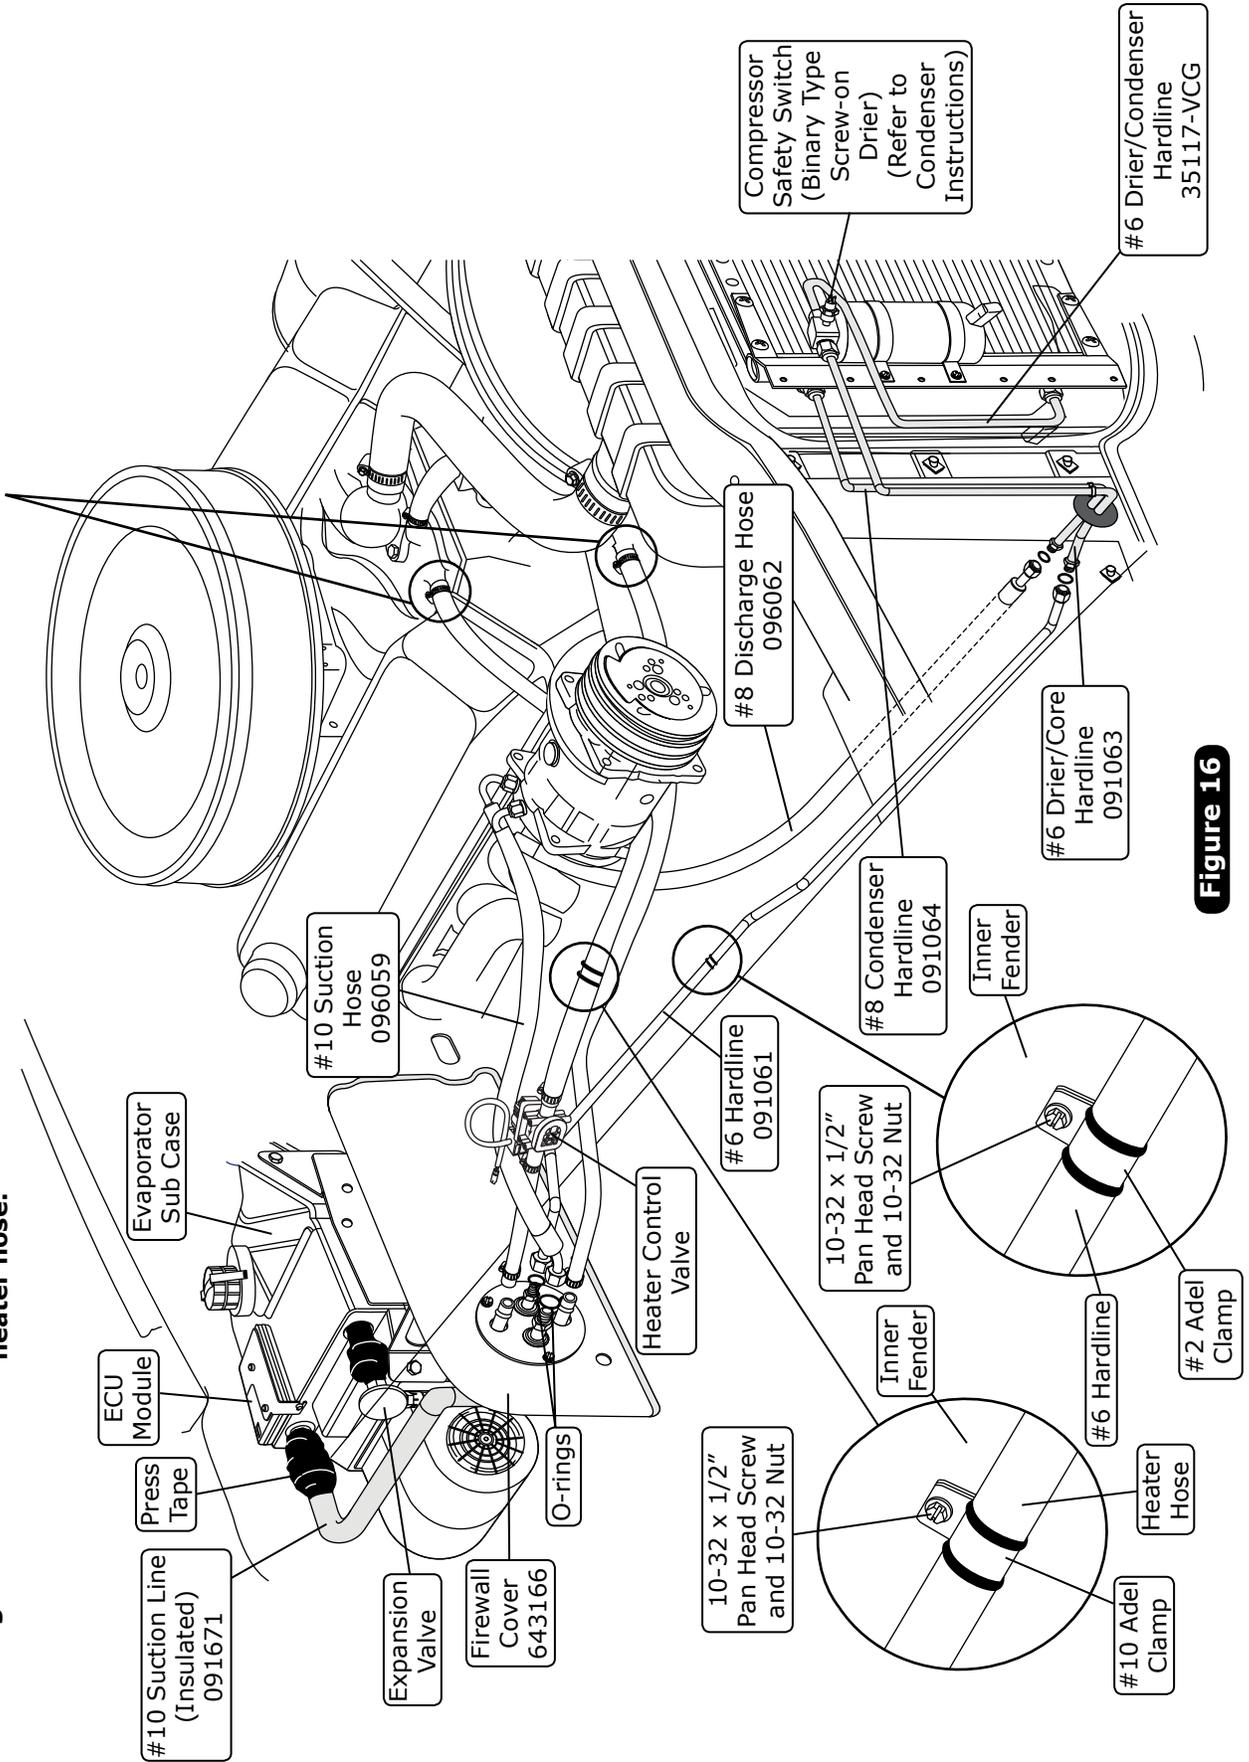

Figure 16
1. Locate the #8 compressor A/C hose. Lubricate (2) #8 O-rings (See Figure 14, above) and connect the 135° female fitting with 134a service port to the #8 discharge port on the compressor. Then route the straight female fitting to the #8 condenser hardline coming through the core support (See Figure 16, Page 16). Tighten each fitting connection as shown in Figure 14, above.
2. Locate the #10 compressor A/C hose. Lubricate (2) #10 O-rings (See Figure 14, above) and connect the #10 135° female fitting with 134a service port to the #10 suction port on the compressor. Then route the 45° female fitting to the #10 evaporator hardline coming through the firewall (See Figure 16, Page 16). Tighten each fitting connection as shown in Figure 14, above. **NOTE: Wrap the #10 fitting connections with press tape (See Figure 15, Page 15).**
3. Locate the #6 evaporator/core hardline. Lubricate (2) #6 O-rings (See Figure 14, above) and connect the hardline to the #6 hardline coming through the core support from the drier. Then attach the other end of the hardline with lubricated O-ring to the #6 evaporator hardline coming through firewall (See Figure 16, Page 16). Tighten each fitting connection as shown in Figure 14, above.
4. Use #2 and #10 Adel clamps to secure the #6 evaporator/core support hardline and the 5/8" heater hose to the inner fender as shown in Figure 16, Page 16. Secure the Adel clamps to the inner fender using (2) 10-32 x 1/2" pan head screws and 10-32 nuts.
1. Route a piece of heater hose from the water pump to the lower heater core fitting (See Figure 15, below, & Figure 16, Page 16). Secure using hose clamps.
2. Route a piece of heater hose from the intake to the heater control valve, and from the heater control valve to the upper heater core fitting (See Figure 15, below, & Figure 16, Page 16). **NOTE: Install the heater control valve in line with the intake manifold (pressure side) heater hose, and secure using hose clamps. Also note proper flow direction.**